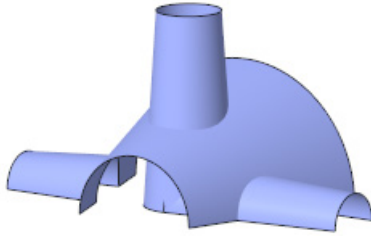

Figure 15-109 Surface model after merging the two surfaces
4. Exit the dashboard by choosing the **OK** button. The model after merging the two surfaces is shown in Figure 15-109.